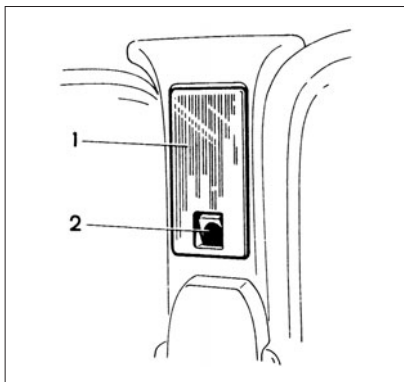

Fig. 26. Interior lighting
Courtesy lights 1 (Fig. 26) are turned on automatically at door opening they are arranged in B-pillars. Interior lighting with the doors closed is turned on by pressing switch key 2.